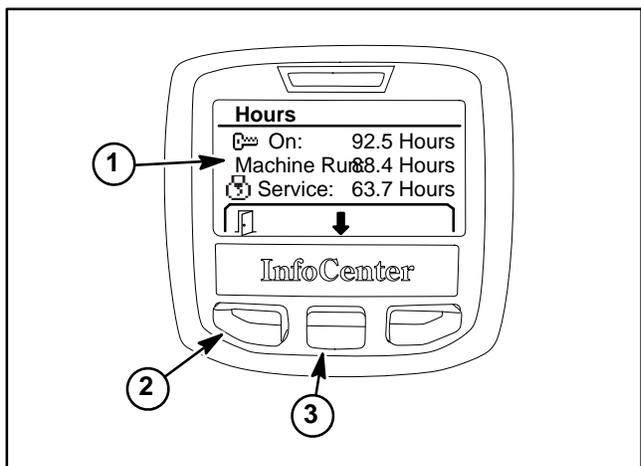

Figure 19
The service screen (Fig. 19) contains machine operational information including Faults and Hours. If the correct personal identification number (PIN) has been entered (see Settings Screen – Protected Menus in this chapter) the service screen allows viewing the Flow Rate, Flow Calibration Value and Speed Calibration Value. To scroll through the list of service items and view the current values, press the center/down button (as indicated by the ↓ at the bottom of the screen).
**Hours:** The Hours screen (Fig. 19) will list the following: